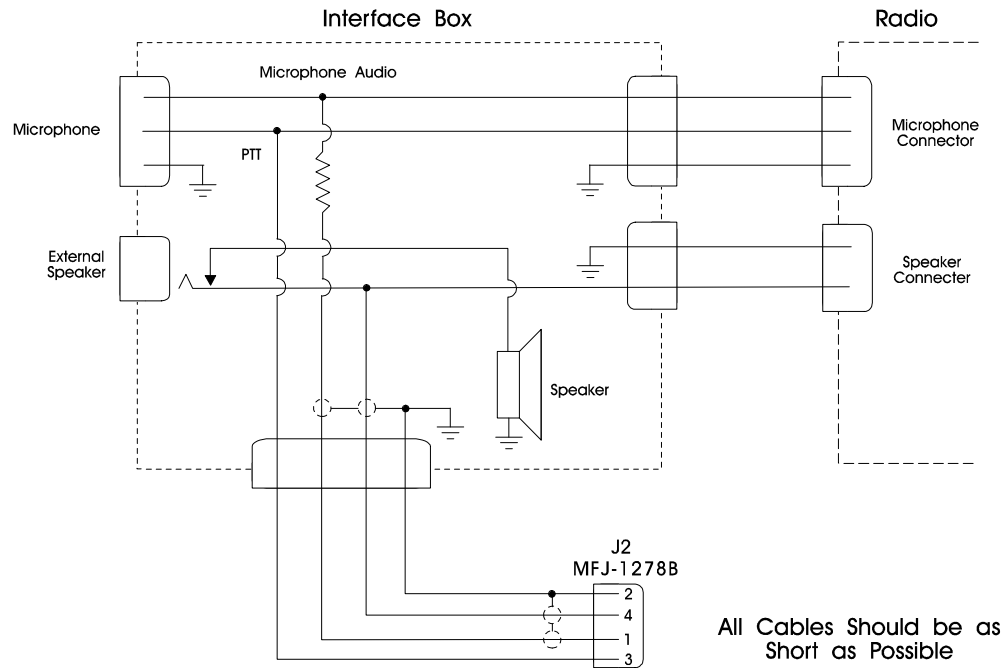

Fig. 3-7 External Interface Box
If your radio does not have an accessory jack and you don't wish to add a connector to your radio, you may construct a separate external interface box. This box will permit simultaneous connection of your MFJ-1278B and a microphone. Figure 3-7 shows a schematic of an external interface box.
A microphone interface box similar to the one shown in Fig. 3-7 is available from MFJ Enterprises, Inc. or from any dealer of MFJ products. The Model No. of the microphone interface box is MFJ-1272B.
If you built the external interface box as in Fig.3-7, then follow this procedure to adjust R(s).
2. Temporarily solder a variable resistor in place of R(s) Fig. 3-7. The maximum value of this resistor can be determined by experiment. However, a 500K resistor should be adequate most cases. Connect your MFJ-1278B to the radio. Connect the microphone to the radio, or to the interface box if one is being used. Connect the radio to a dummy load and listen to the transmission with another nearby radio. Adjust R(s) for proper modulation as the next sections describe.